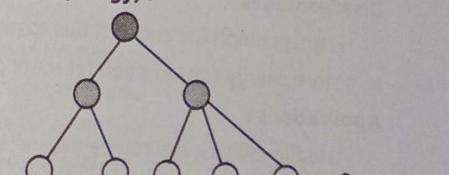

Fig. 4.5 : Tree topology
- This topology is an extension of the star topology, where multiple star networks are connected in a hierarchical manner as shown in Fig. 4.5. Each cluster has a cluster head that communicates with a higher-level node or the base station.